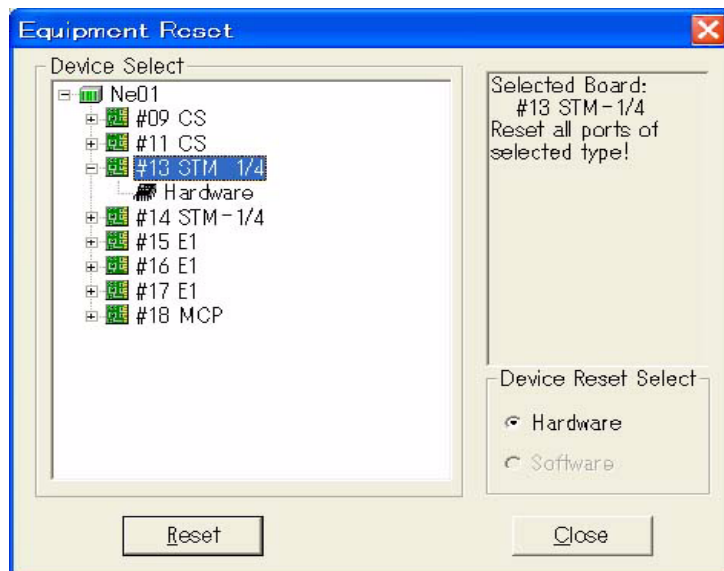

Fig. 4-8-3 Equipment Reset Dialog Box
- 3 Select **Equipment Reset** from the **Maintenance** menu. The **Equipment Reset** dialog box shown in *Fig. 4-8-3* appears: